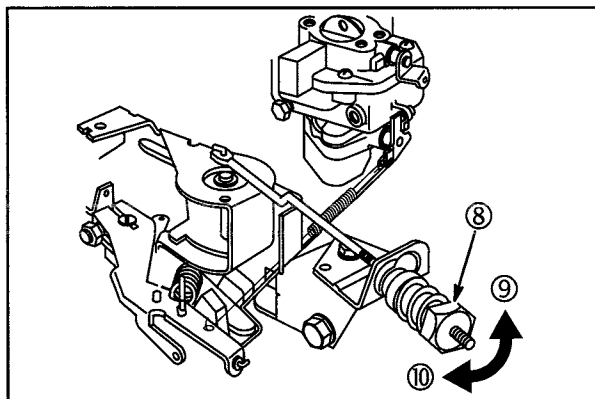

Fig. 41
10. Engage fixed speed adjustable control nut (8) and adjust to Regulated No-Load RPM for the type of generator listed in Table 1, Fig. 41.
- a. Turn nut CLOCKWISE (10) to increase speed.
- b. Turn nut COUNTERCLOCKWISE (9) to decrease speed.